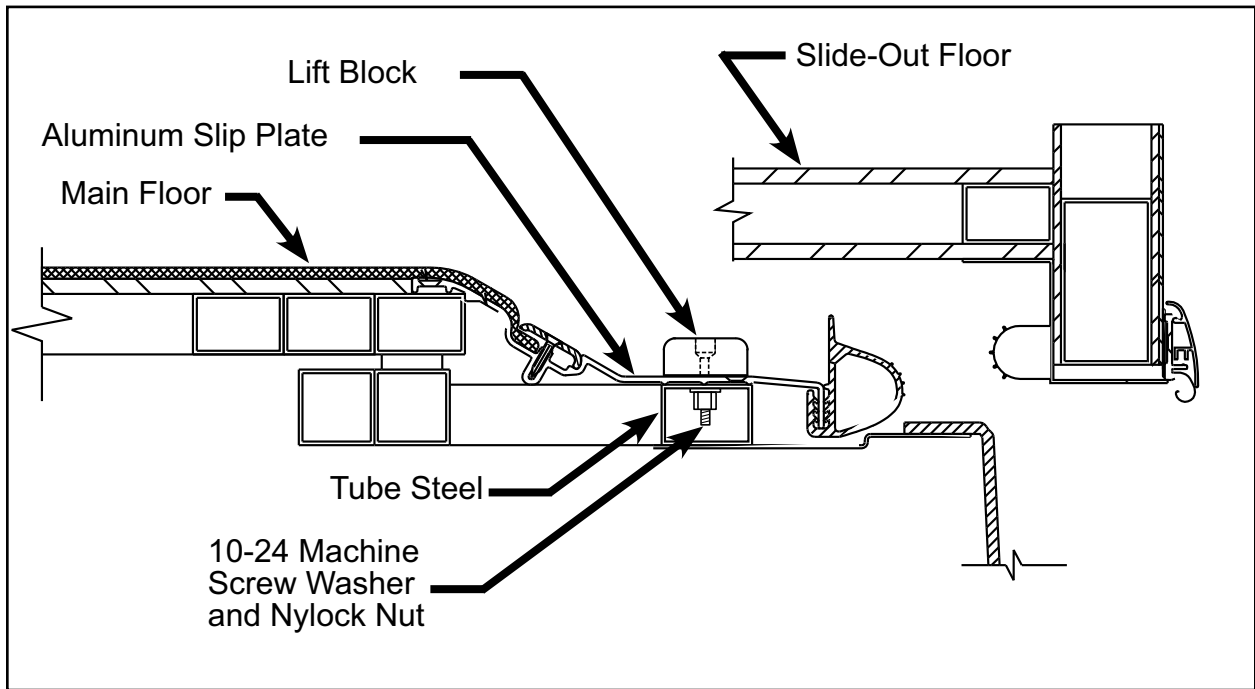

Figure 7
11. Attach a 1/4" washer, #099482, and a 10-24 Nylock Nut, #500823, to the bottom of each Lift Block installation screw. Use a 90 degree Phillips ratcheting screw driver and 3/8" deep socket with 1/4" drive ratchet and 4" extension to tighten all six Lift Block fasteners. See Figure 7 on Page 3 of this Bulletin.